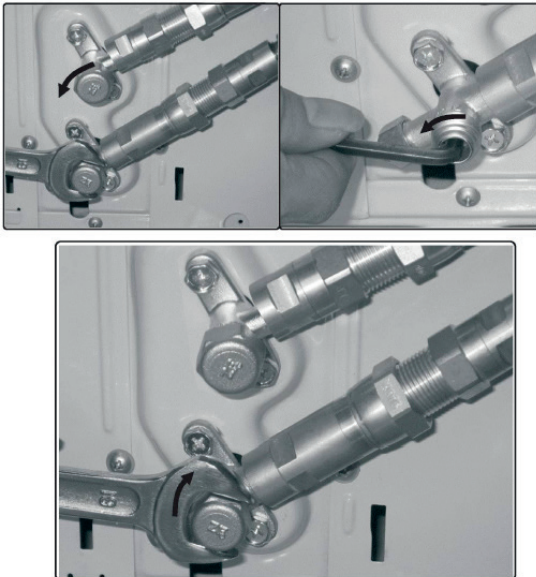

Fig. 6.6
6. Now re move the cover on the bottom valve using a 19 mm open-ended spanner. Open the valve by turning it counter-clockwise as far as it will go using a 5 mm Allen key. The valve is naw open. If the valve is not opened fully, the system may malfunction and suffer damage. Screw the cover back on to the bottom valve and tighten it well to ensure that it is properly sealed. See Fig.6.6.